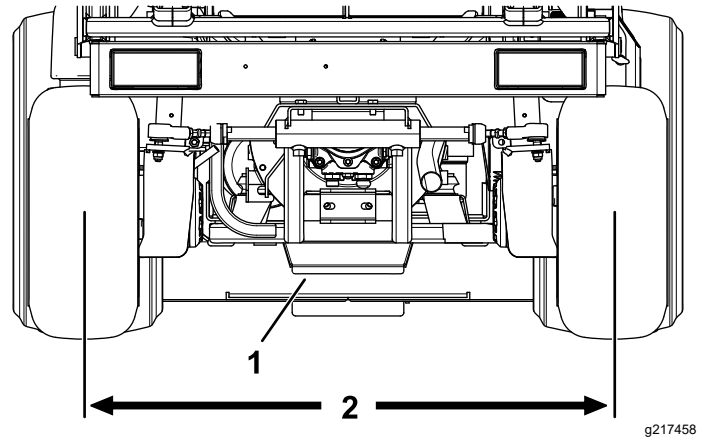

Figure 83
2. Adjust both tie rods until center-to-center distance at front and back of rear wheels is the same (Figure 83).